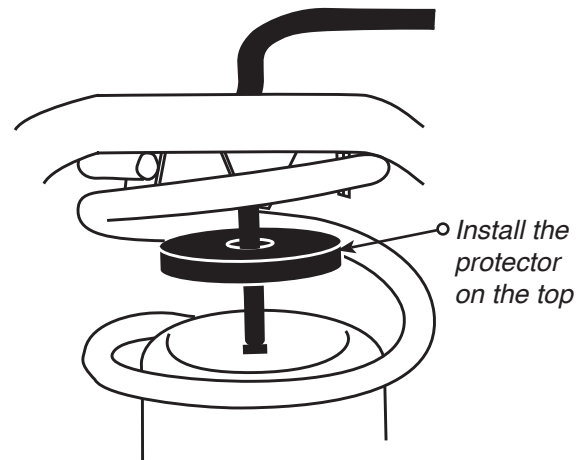

Fig. 4
7. Route the hose down from the outside of the frame, through the hole in the top spring seat (Fig. 4). Insert hose through the protector and attach to the cylinder per the next section.